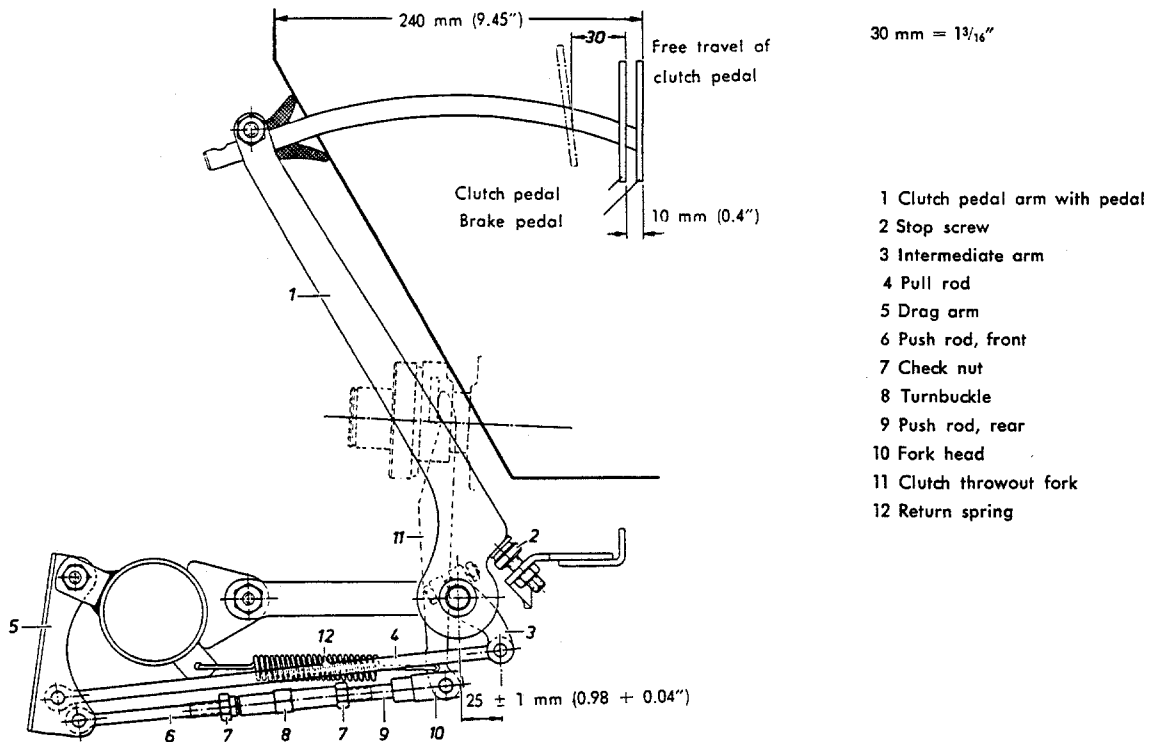

Fig. Ku 5/01
1. As can be seen from Fig. Ku 5/01, in actual practice the clutch pedal is adjusted about 10 mm (0.4") deeper than the brake pedal, the distance between brake pedal and fire wall being 240 mm (9.45"). To correct the distance between clutch pedal and brake pedal, turn stop screw (2) in or out. Do not forget to tighten the check nut afterwards! With clutch pedal in correct position the distance between eyelet in intermediate arm (3) and center of clutch pedal shaft should be 25 ± 1 mm (0.98 ± 0.04 "). Excessive deviation can be corrected by shifting the intermediate arm on the splines of the clutch pedal shaft.
2. Loosen check nuts (7) at turnbuckle and adjust turnbuckle so that free travel of clutch pedal is 30 mm (1³/₁₆"). After free travel has been adjusted, tighten the two check nuts again.